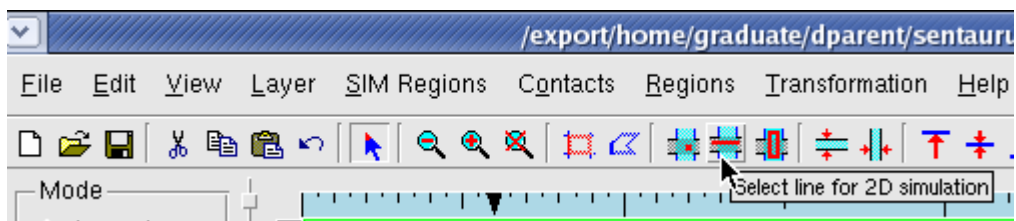

Figure 27: Setting a 2-D cross section for simulation.
16. Now we would like to simulate a 2-D cross section of the device. We only want to process half of the device to save simulation time. Click on TCAD in the upper left corner of the editor and then select the line for 2-D cross section icon (Figure 27).